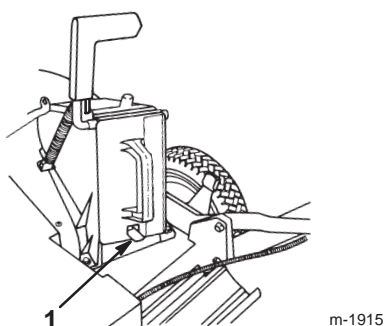

Figure 6
3. Push the plug all the way in until the spring clip on the bottom of the plug clicks into place, locking the plug securely into the discharge tunnel (Fig. 6).